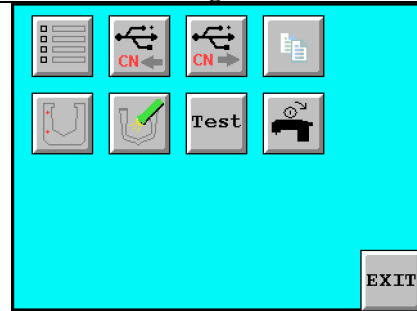

Fig.10
14.1.2 Press the button “SETTING” , the screen as fig.10 will appear.